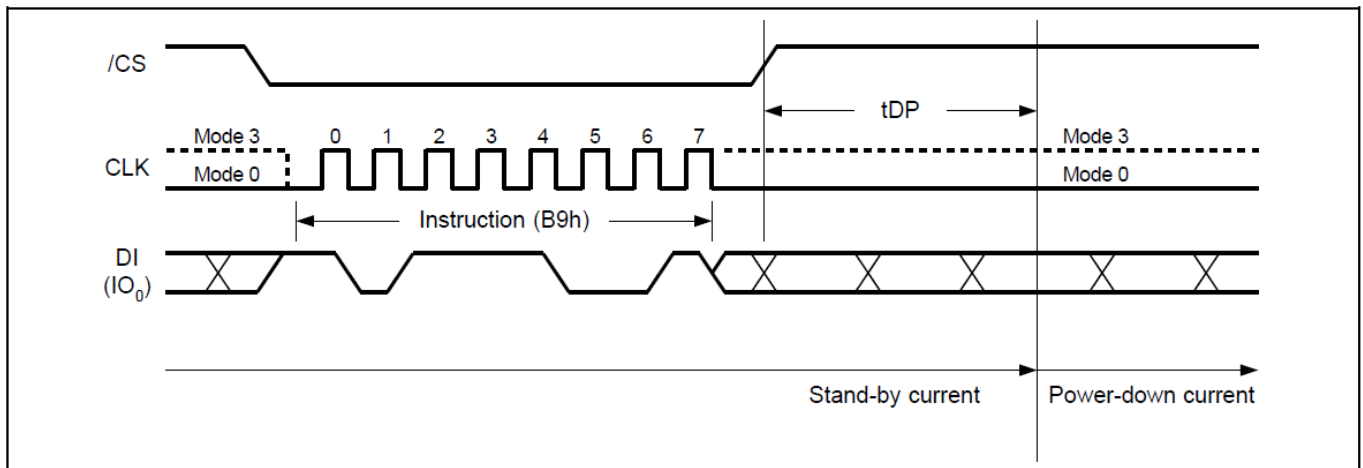

Figure19. Deep Power-Down Sequence Diagram
The Deep Power-Down Mode automatically stops at Power-Down, and the device always in the Standby Mode after Power- Up. The Deep Power-Down command sequence: CS# goes low → sending Deep Power-Down command → CS# goes high. The command sequence is shown in Figure19. CS# must be driven high after the eighth bit of the command code has been latched in; otherwise the Deep Power-Down (DP) command is not executed. As soon as CS# is driven high, it requires a delay of  $t_{DP}$  before the supply current is reduced to IDPD and the Deep Power-Down Mode is entered. Any Deep Power-Down (DP) command, while an Erase, Program or Write cycle is in progress, is rejected without having any effects on the cycle that is in progress.